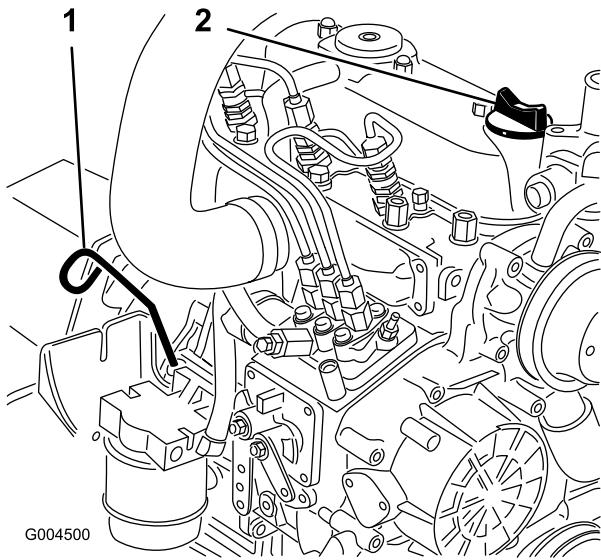

Figure 65
- Remove the dipstick (Figure 65), wipe it clean, and install the dipstick. Remove the dipstick and check the oil level.
- If the oil level is below the Full mark, remove the fill cap (Figure 65) and add oil until the level reaches the Full mark on the dipstick.